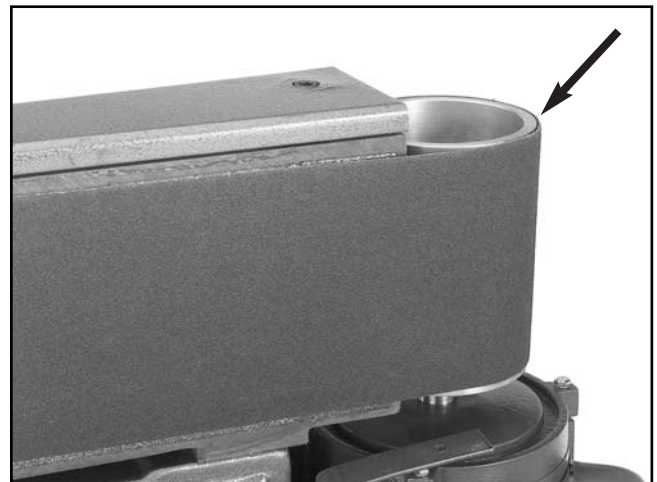

Figure 11. Sanding belt even with top of main roller.
5. Repeat **steps 3 & 4** until the top of the sanding belt rides even with the top of the main roller as shown in **Figure 11**.